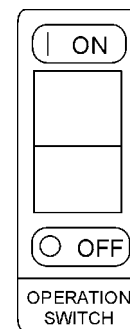

Figure 13. Generator On/Off Switch (ON)
4. Place the **generator's operation switch** (Figure 13) in the "ON" position.